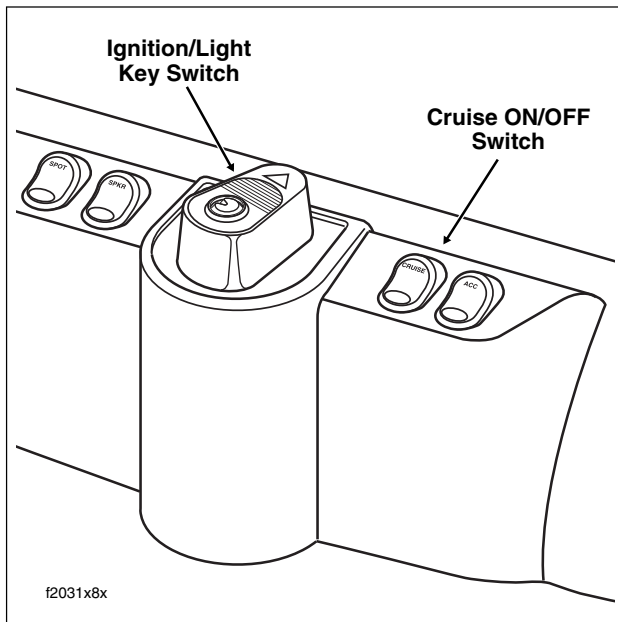
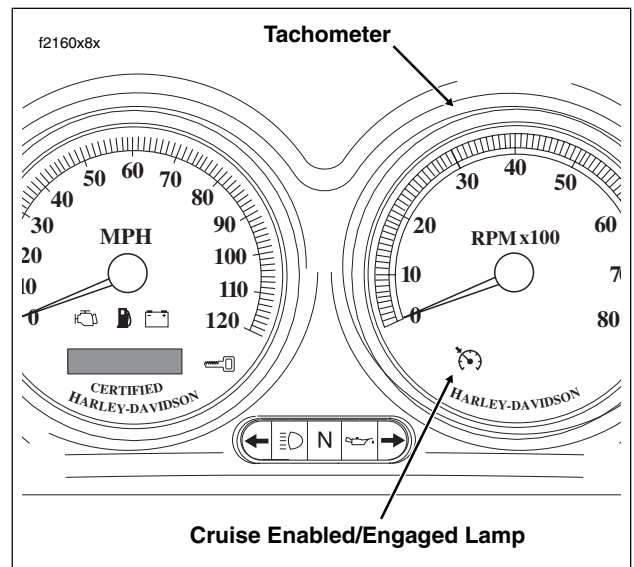

Figure 8-123. Fairing Cap (FLHTCU)
Figure 8-125. Instrument Panel (FLHTCU)
1. While riding in fourth or fifth gear, turn the Cruise ON/OFF Switch to the ON position. See Figure 8-123. The switch is located on the fairing cap of FLHTCU models, the instrument nacelle of FLTR models, and the left handlebar lower switch housing on FLHRC models. The Cruise Enabled/Engaged lamp in the tachometer face (speedometer on FLHRC models) turns red to indicate that the system is activated. See Figure 8-125. A red lamp in the switch on both FLHTCU and FLTR models also indicates this condition to the rider.
The cruise control module “reads” the vehicle speed sensor (VSS) output to establish the desired vehicle speed. The module then sends a signal to the stepper motor which drives the ribbon reel to take up the slack in the cruise cable. The Cruise Enabled/Engaged lamp in the tachometer face (speedometer on FLHRC models) turns from red to green to indicate that the cruising speed is locked in. See Figure 8-125.